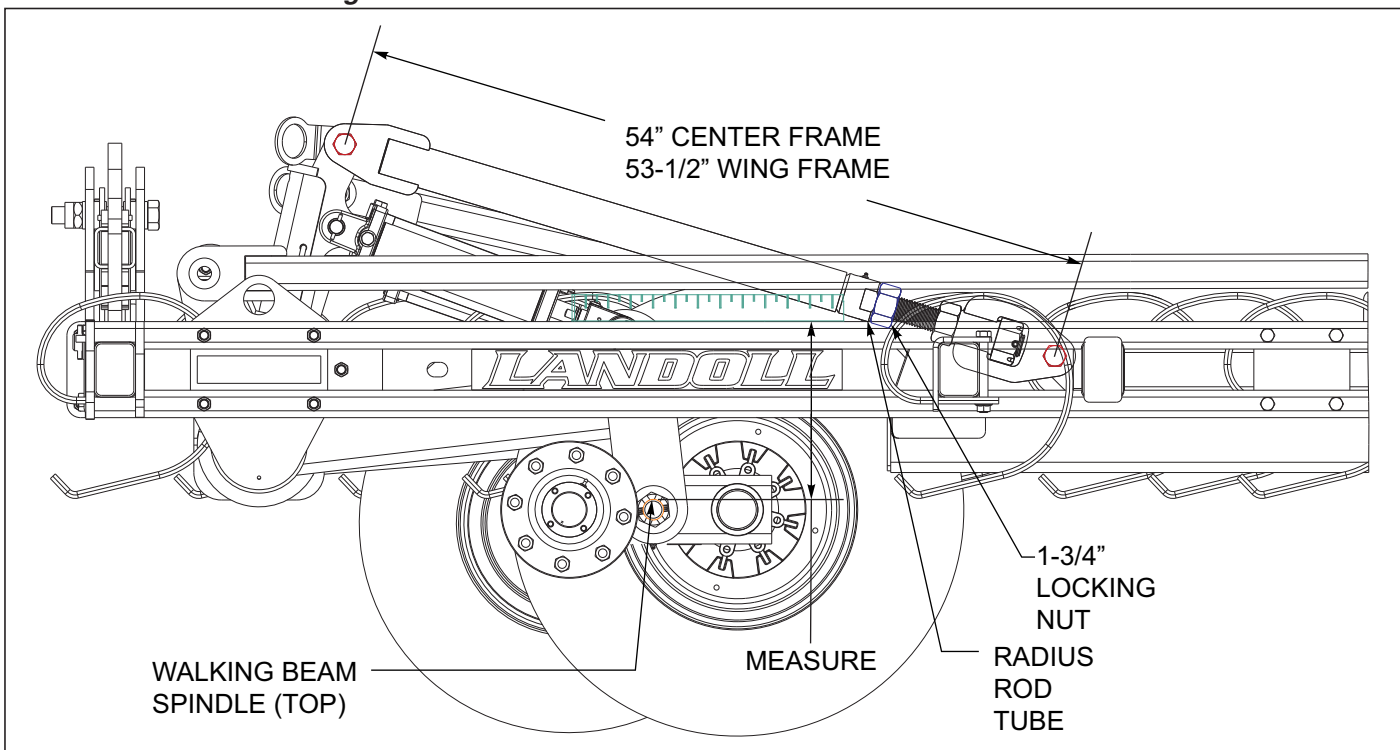

Figure 4-6: Leveling from Side to Side
2. To level the unit, verify that all tires are properly inflated. With the implement unfolded, raise the unit to fully extend the lift cylinders. Continue to hold the tractor lever 15 seconds to insure that the cylinders are fully extended and the rephasing lift system has been purged of air. Lower the implement until the sweeps are approximately 1" off the ground. On the center frame, lay a straight-edge across the top of the frame, and measure the distance from the walking tandem spindle to the top side of the frame of both walking tandems *See Figure 4-6*. Adjust the center radius rod at the front of the Field Cultivator center frame until the spindle heights are the same.